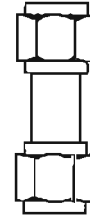

Figure 3-7. DISS swivel nut adapter.
(6) Install the DISS swivel nut adapter (fig 3-7) to the blender oxygen connection.
(7) Reconnect the green oxygen high-pressure hose to the adapter installed in the preceding procedure.